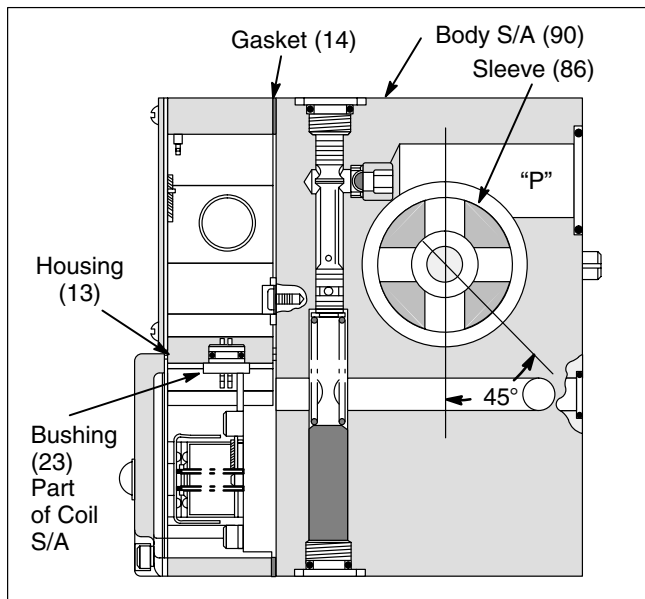
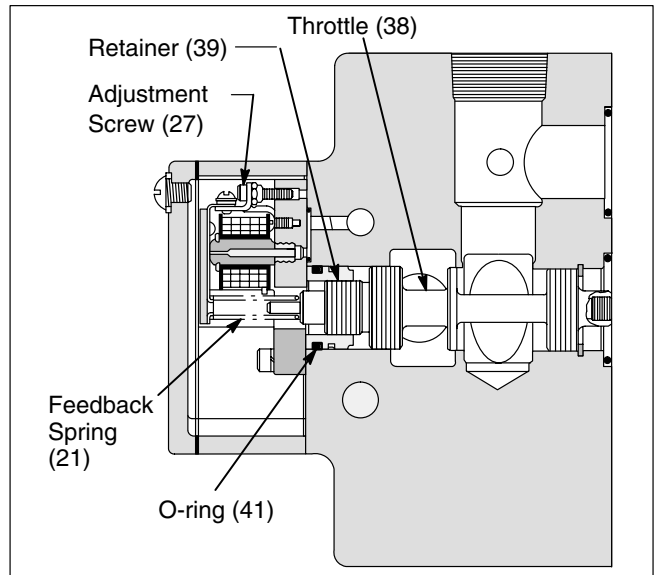

Figure 2. Sectional View Showing Hydrostat Sleeve Orientation.
Figure 6. Sectional View of Throttle Arrangement.
8. Install parts (50) thru (39). Use care when installing retainer (39). Do not shear O-ring (41). (See Figure 6.)
d. Install feedback spring (21) over end of throttle (38). See Figure 6.
e. Assemble first stage subassembly (17) to body S/A (90). Check to be sure O-ring (34) is in place. Use screw (15) and lockwashers (16). Tighten securely. Check feedback spring (21) to be over the tang of the flapper. If not, rotate the spring until it rests over the tang, flat against the flapper.
12. Assemble gasket (14) and housing (13) use screws (12) and (11). Install the bushing and O-ring (part of coil (27) thru the hole in center section of housing (13). Press in place with a suitable tool. (See Figure 2.)
a. Before mounting valve on subplate, manually shift throttle (38, Figure 6) fully in. Use a screw driver or similar tool. Throttle must move freely without restriction.